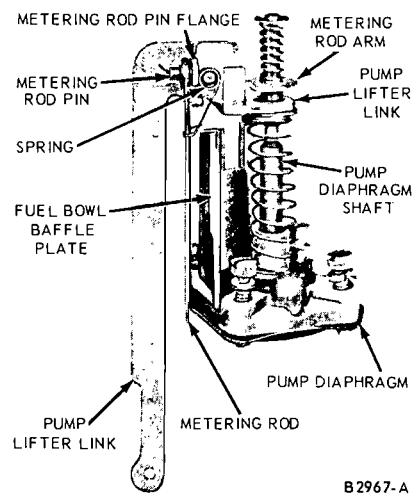

FIG. 9—Acceleration Pump and Lifter Link Assembly
9. Remove the accelerating pump diaphragm housing screws. Lift out the pump diaphragm assembly, the pump lifter link, the metering rod and the fuel bowl baffle plate as a unit (Fig. 9).
6. Install the metering rod on the metering rod arm and place the looped end of the metering rod arm spring on the metering rod as shown in Fig. 9. Align the pump diaphragm with the diaphragm housing; make sure the holes are aligned. Install the housing attaching screws to keep the diaphragm and housing aligned.
7. Position the fuel bowl baffle plate on the pump assembly as shown in Illus. Figs. 9 and 10. Align the pump housing, pump lifter link, metering rod and baffle plate with the main body casting. **Be sure the vacuum passage in the diaphragm housing is aligned with the vacuum passage in the main body.** Install the assembly in the main body casting, being careful to engage the pump lifter link with the main body, the baffle plate with the grooves in the main body, and to insert the metering rod in the metering rod jet. Install the pump housing attaching screws snug, but not tight. Push down on the diaphragm shaft to compress the diaphragm, and tight-